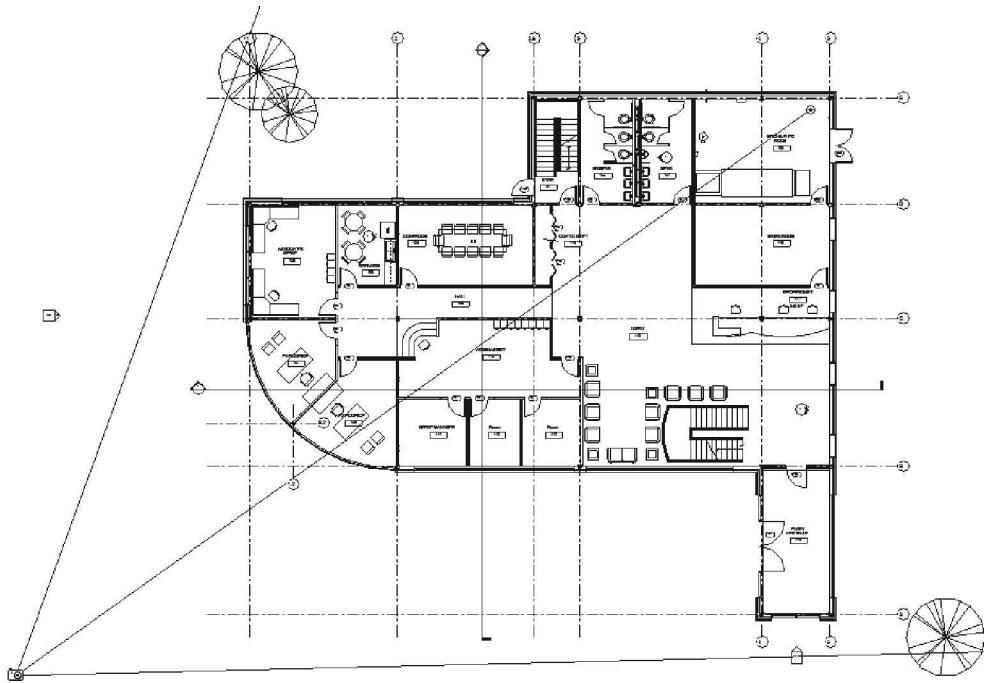

FIGURE 15-2.15 Level 1 with trees added
41. In the Level 1 Plan view, select the tree that is shown smaller in **Figure 15-2.15**.